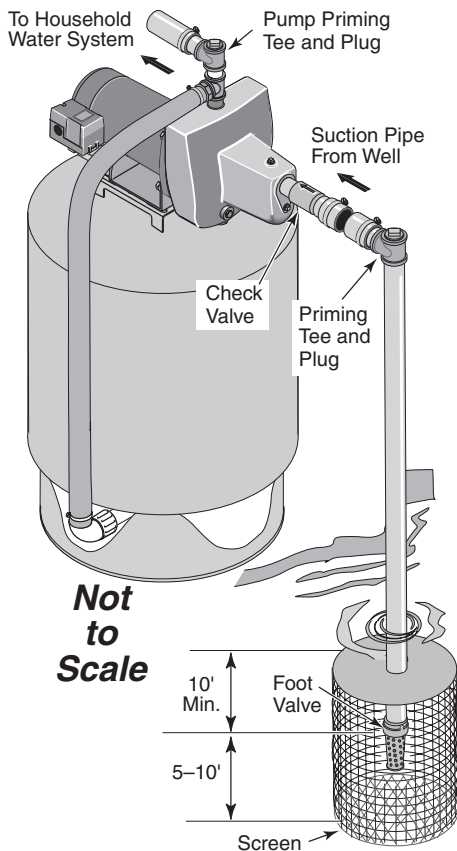

Figure 3: Surface Water Installation
INSTALLATION FOR SURFACE WATER (FIGURE 3)
2. Assemble a foot valve and suction pipe (Figure 3). Make sure that the foot valve works freely. Use PTFE pipe thread sealant tape on threaded pipe joints. Protect the foot valve assembly from fish, trash, etc, by installing a screen around it (see Figure 3).
4. Install a priming tee, priming plug, and suction pipe to the pump (see Figure 3). Support the pipe so that there are no dips or sags in the pipe, so it doesn't strain the pump body, and so that it slopes slightly upward from the well to the pump (high spots can cause air pockets which can air lock the pump). Seal the suction pipe joints with PTFE pipe thread sealant tape. Joints must be air- and water-tight. *If the suction pipe can suck air, the pump cannot pull water from the well.*